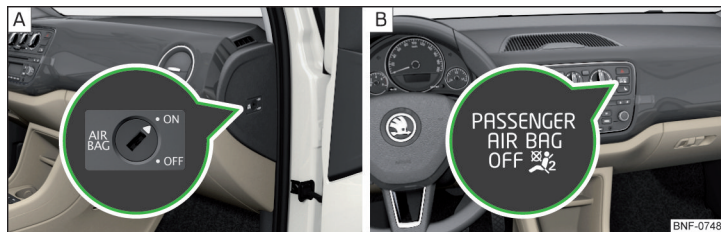

Fig. 10 Key-operated switch for the front passenger airbag / warning light for front passenger airbag
The front passenger airbag can be switched off with the key-operated switch » Fig. 10 on page 18 - A.
Key switch positions » Fig. 10 - A
- Use the key to turn the slot of the key switch » Fig. 10 A carefully into the position **OFF**.
- Check that the warning light **PASSENGER AIR BAG OFF** » Fig. 10 - B lights up once the ignition is switched on.
- Use the key to turn the slot of the key switch » Fig. 10 A carefully into the position **ON**.
- Check that the warning light **PASSENGER AIR BAG OFF** » Fig. 10 - B does not illuminate after the ignition is switched on.